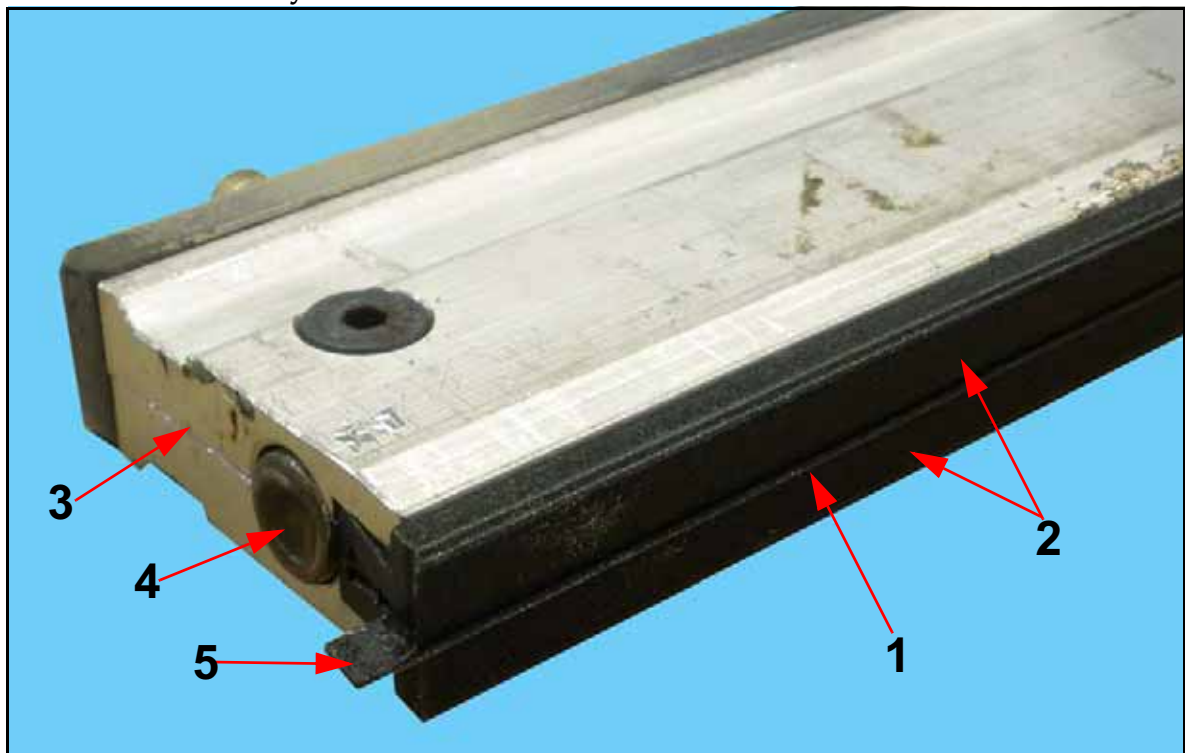

Figure 7-39. Blade and Insert Installation
- 14 Slide seal bar blade (1 in Figure 7-39) and inserts (2) into seal bar halves (3). The tab (4) on the blade should be oriented towards the blunt end (5) of the heater element. The tab should extend its full length past the end of the seal bar halves. **Do not Tighten any screws yet.**
- 6 Slide seal bar blade (1 in Figure 7-39) and inserts (2) into seal bar halves (3). The tab (4) on the blade should be oriented towards the blunt end (5) of the heater element. The tab should extend its full length past the end of the seal bar halves. **Do not Tighten any screws yet.**